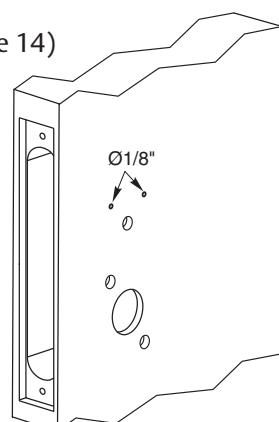

Figure 14
10. Coin-turn functions only: drill two holes (1/8") halfway through door. (Figure 14)